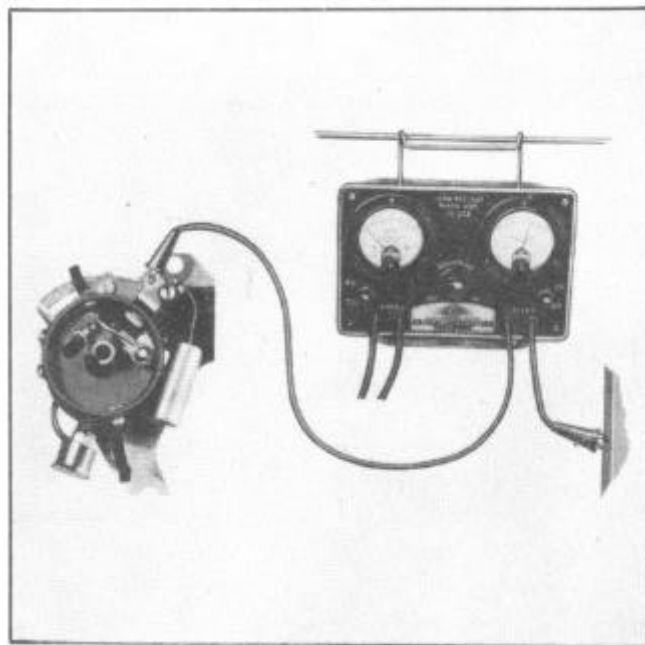

Figure 27--Distributor Ground Test
1. Connect positive voltmeter lead to ground on engine - negative voltmeter lead to terminal of distributor, as shown in Figure 27 .